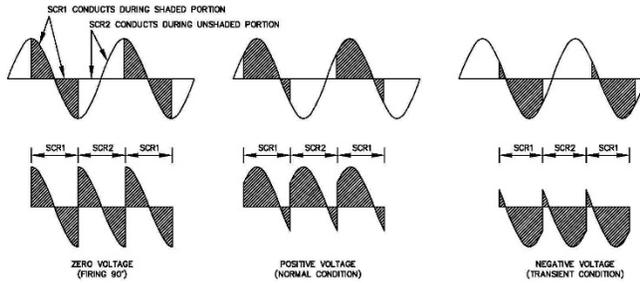

Figure 9. Waveform of Regulator Voltage Output
- c. Set the voltage range adjusting rheostat R23 on the printed circuit (PC) board to position 0 (zero). See Figure 9 for view of typical PC board.